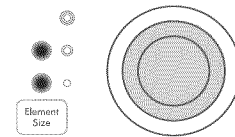

Fig. 4
4. Select the ○ (See Fig. 3), ◎ (See Fig. 4) or ◎ 3 elements (See Fig. 5) to heat by pressing the  pad once, twice or three times (Figures 5 & 6 show indicator lights with ALL 3 elements selected).